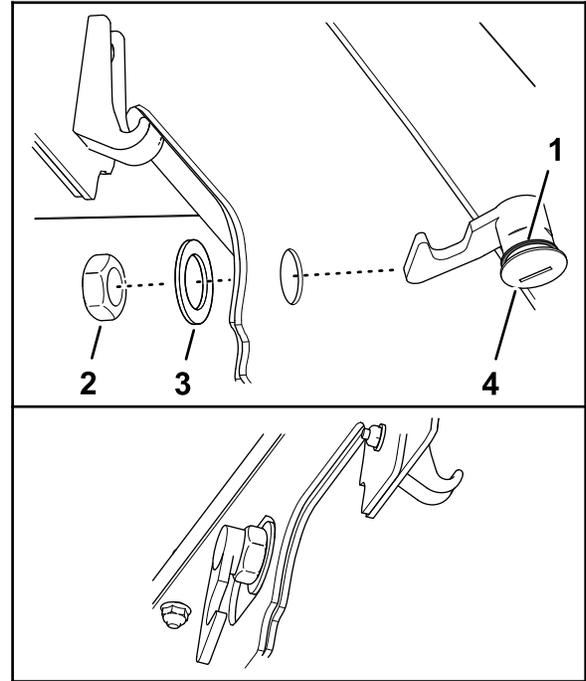

Figure 35
3. Ensure that the seal is assembled to the hood lock (Figure 35).